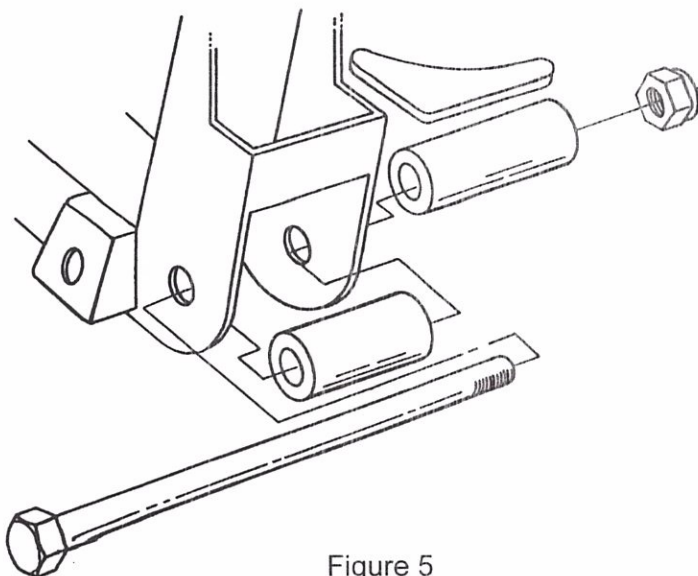

Figure 5
8. If you are using stock components, skip over this step. If you purchased a complete I.F.S. Package it was supplied with Full Lower A-Arms. Begin here by installing the Spacers onto the crossmember. The holes where the lower control arms attach to the Crossmember must be enlarged to 5/8". Mount the Crossmember Spacers and the Rear Spacers which were supplied with the Lower Control Arms as shown in Figure 5 onto the Crossmember using the supplied Inner Bushing Bolts, Nuts and a temporary spacer under the Nuts. DO NOT use the A-Arms for this operation as the welding heat will melt the rubber bushings. Tighten the Bolts and Nuts tight. Weld the Rear Spacers to the Crossmember all around. Weld the Crossmember Spacers as far as possible inside the crossmember on both ends. Position the Gussets horizontally, not vertically, against the Rear Spacers and the back of the Crossmember. Weld Gussets to Spacers and Crossmember. When it cools, remove the bolt.